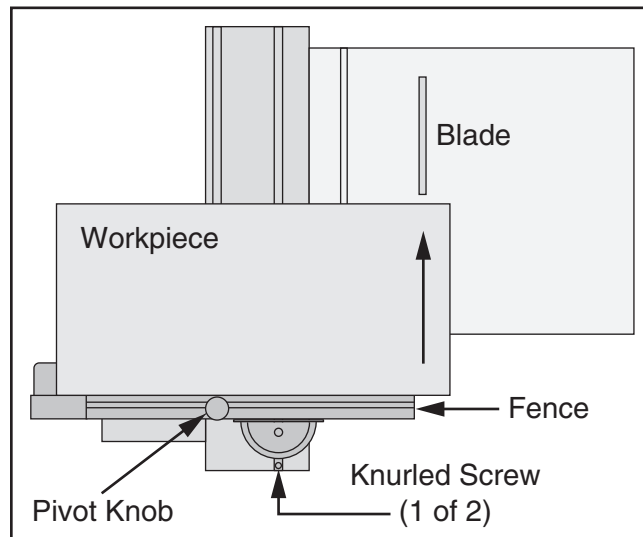

Figure 29. Example of crosscutting large panel.
1. Loosen fence pivot knob and (2) knurled screws in miter bar (see **Figure 29**), then move fence to rear of sliding table.